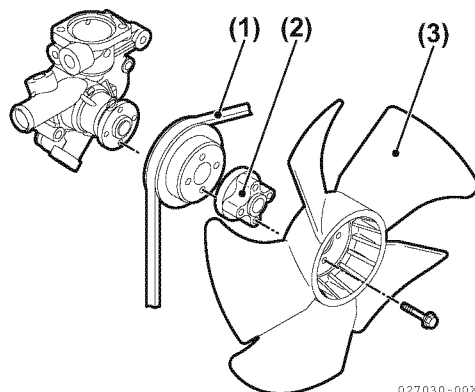

Figure 9-3
Remove the cooling water fan guard (if equipped), cooling fan (Figure 9-3, (3)), spacer (Figure 9-3, (2)), cooling water pump V-pulley (Figure 9-3, (1)), and V-belt.